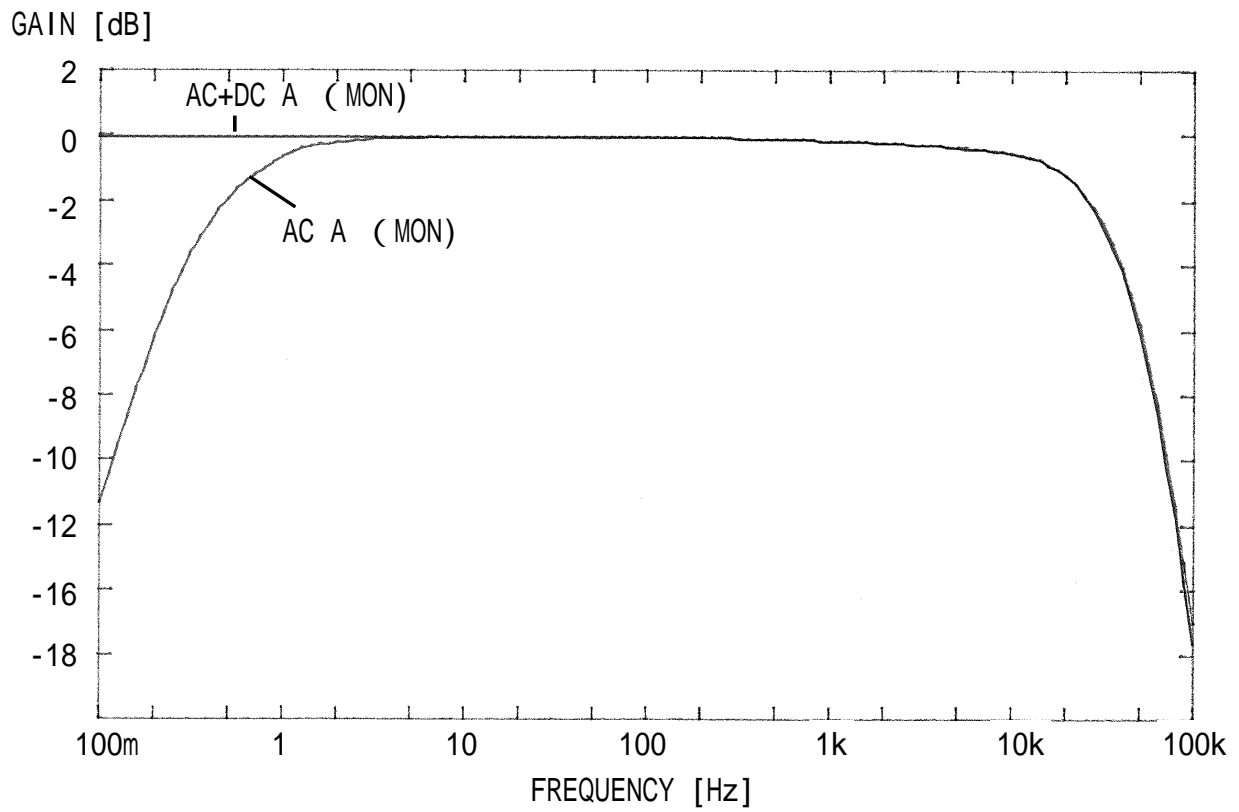

Fig. 1 Frequency Characteristics of Current Output
- The measurement response speed is about 250 ms during rise (0% to 90%) and about 500 ms (100% to 10%) during fall (2.2.5, Figs. 1 and 2).